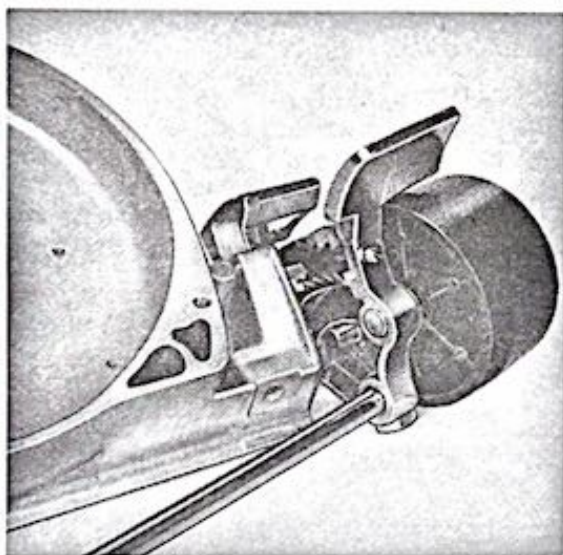

Figure 16. Installing front wheel shaft
c. To assemble front shaft to motor, hold ratchet plunger lock with spring in place as in figure 16. Position ratchet as shown and then lower it into place.